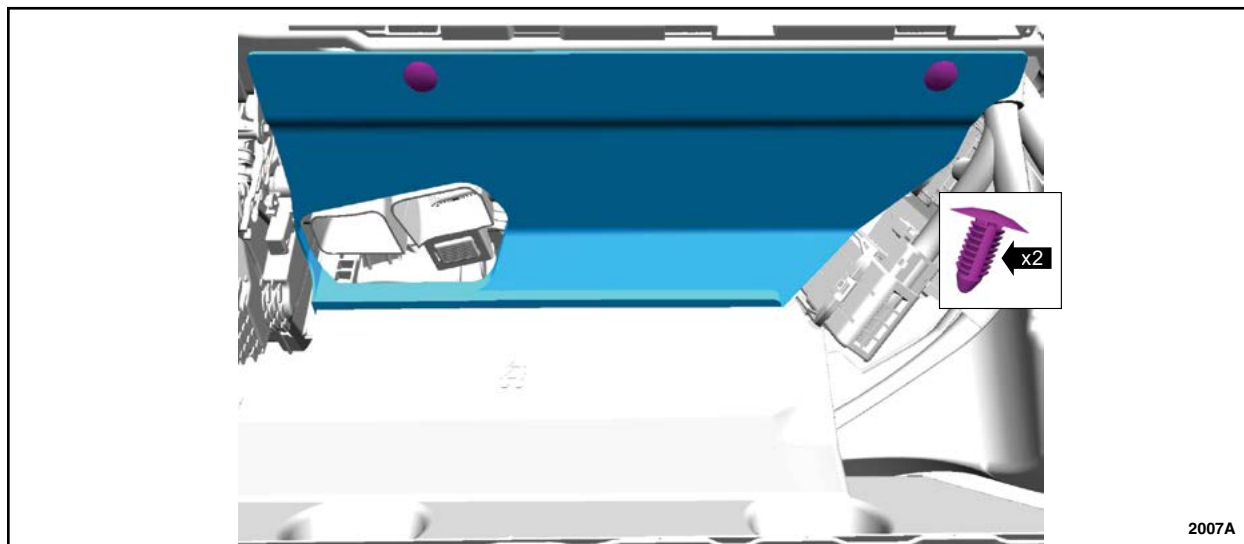

FIGURE 1
3. On the front passenger side, remove the retainers and the lower insulation panel. See Figure 1.